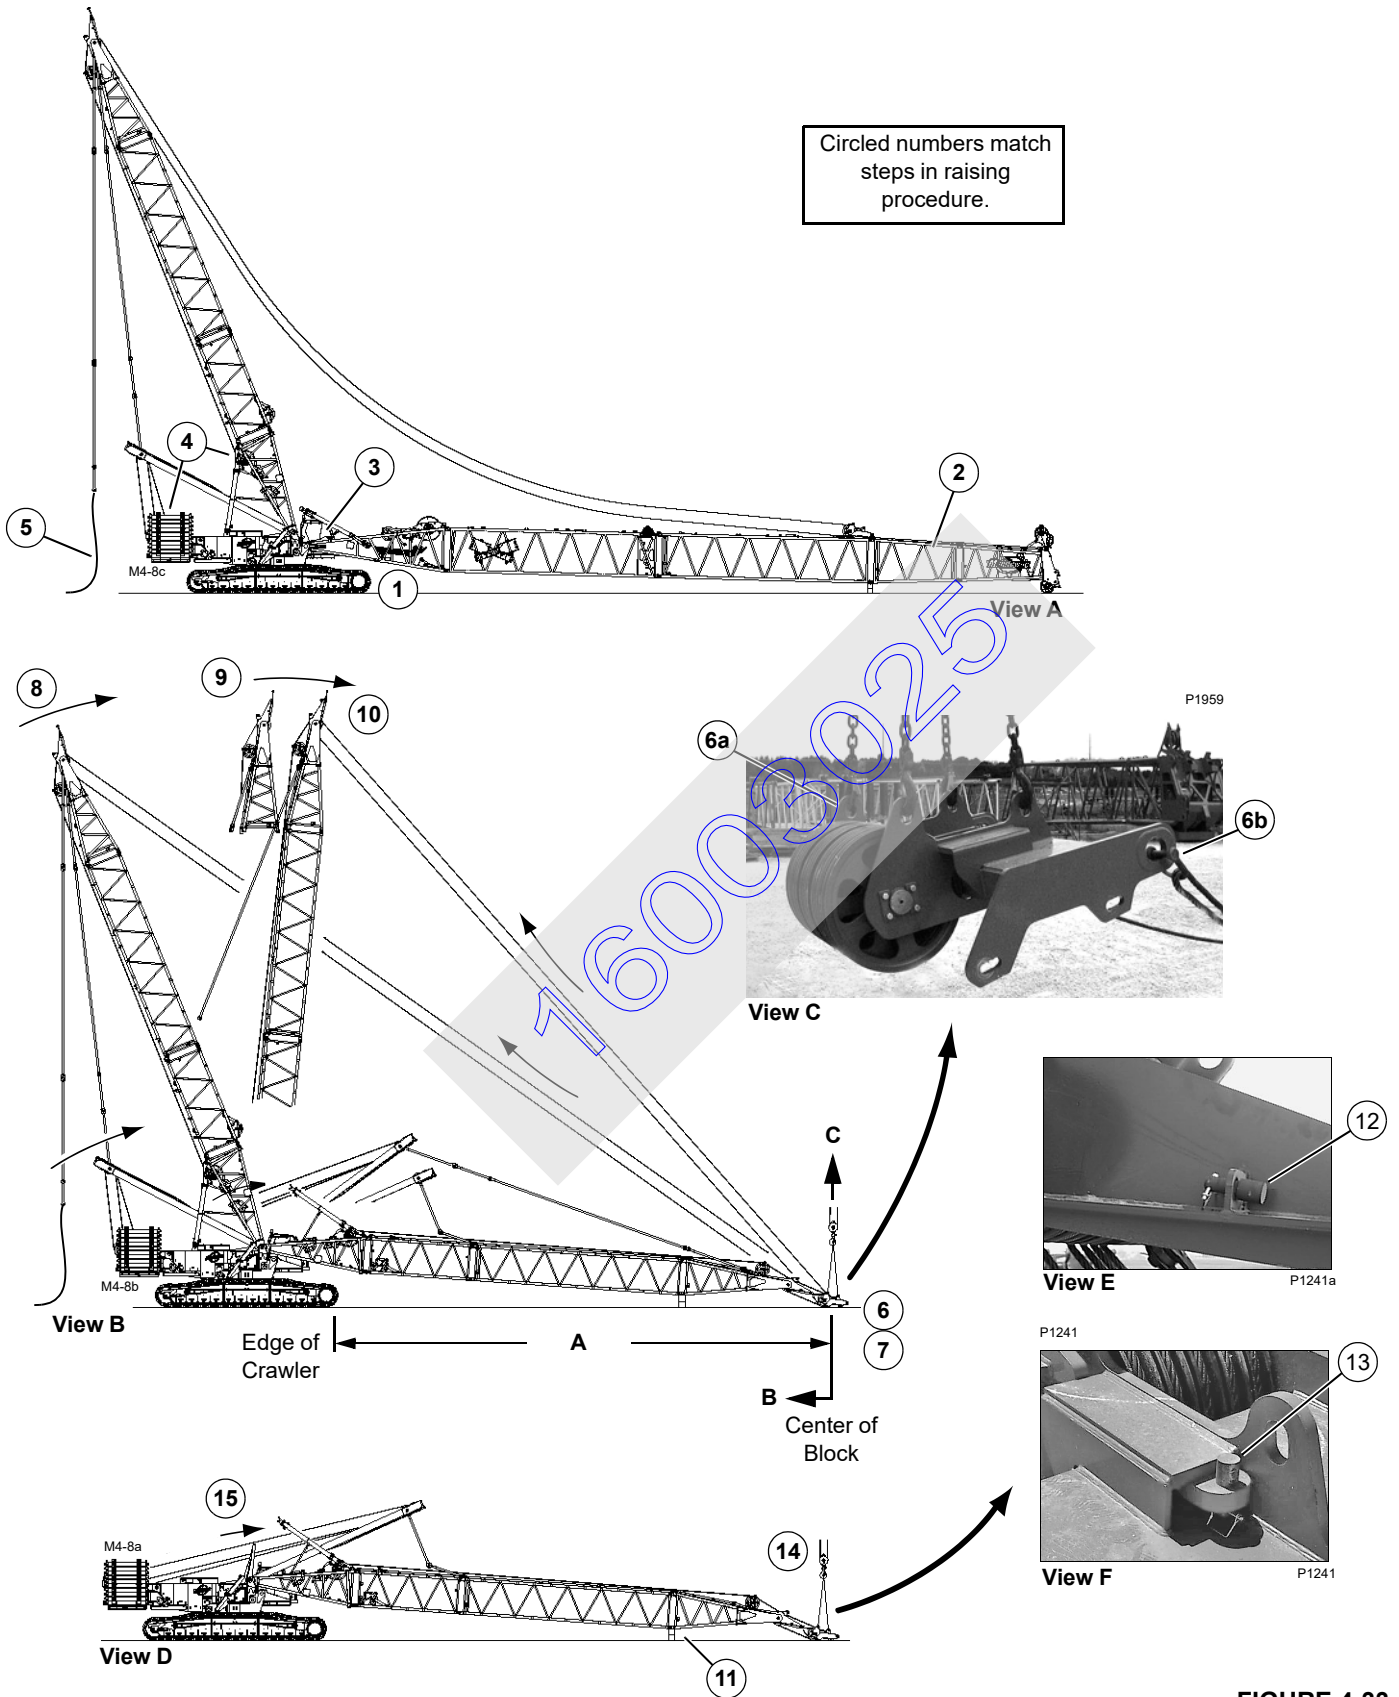

FIGURE 4-33
- If an assist crane is used, it must provide the forces given in Table 4-2. Letters in Figure 4-33, View B correspond to letters in the table
Circled numbers in Figure 4-33 match the following steps.